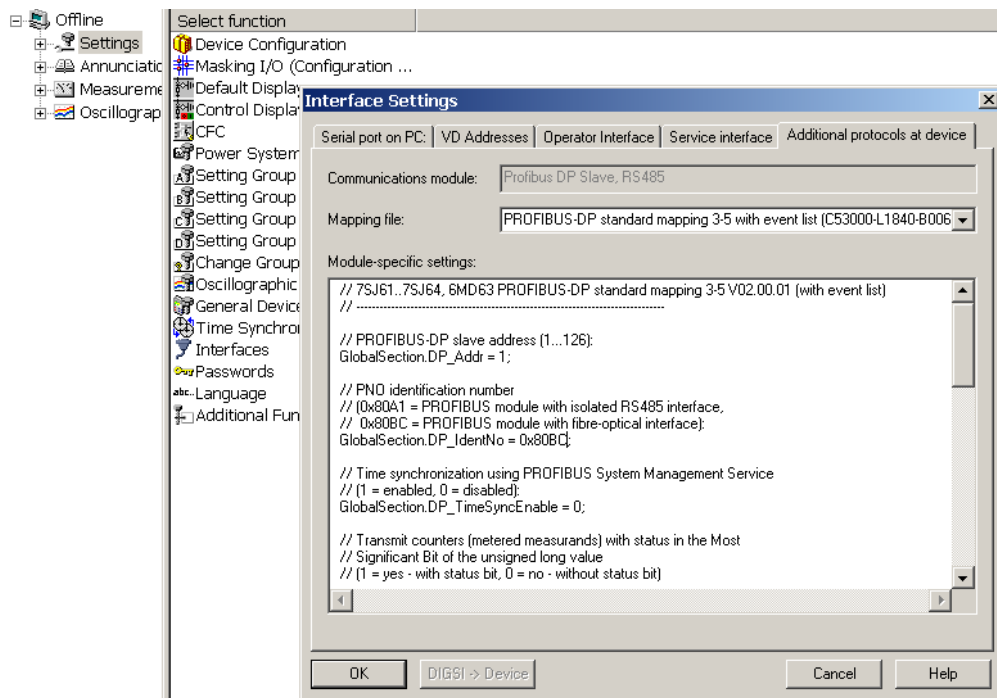

Figure 2: SIPROTEC4 - Mapping file selection in DIGSI
Open the SIPROTEC device in DIGSI, select *Settings – Interfaces and Additional protocols at device* (see Figure 2). Then select a Mapping file.
- Please only use mapping files which numbering starts with a “3-“, e.g. standard mapping 3-5 as shown in Figure 2. All other mapping files which do not start with “3-“ are only offered for compatibility to existing installations that used these mappings and shall not be used for new configurations.